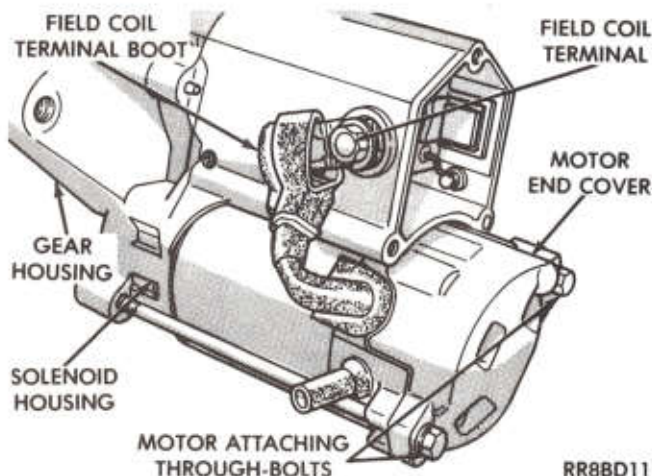

Fig. 6—Remove or Install Field Terminal and Through-Bolts
taching (2) through-bolts (Fig. 6).